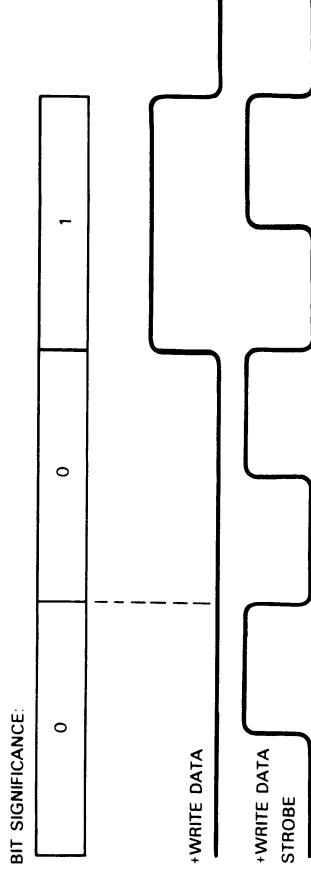

FIGURE 3-12. CHANGING STATES OF WRITE DATA
**Write Data Timing.** The +WRITE DATA (pin R3) signal being high represents a "1"—low represents a "0." The level may change depending on the incoming data from the DCL, but only at the time of the negative going edge of +WRITE DATA STROBE as shown in Figure 3-12.